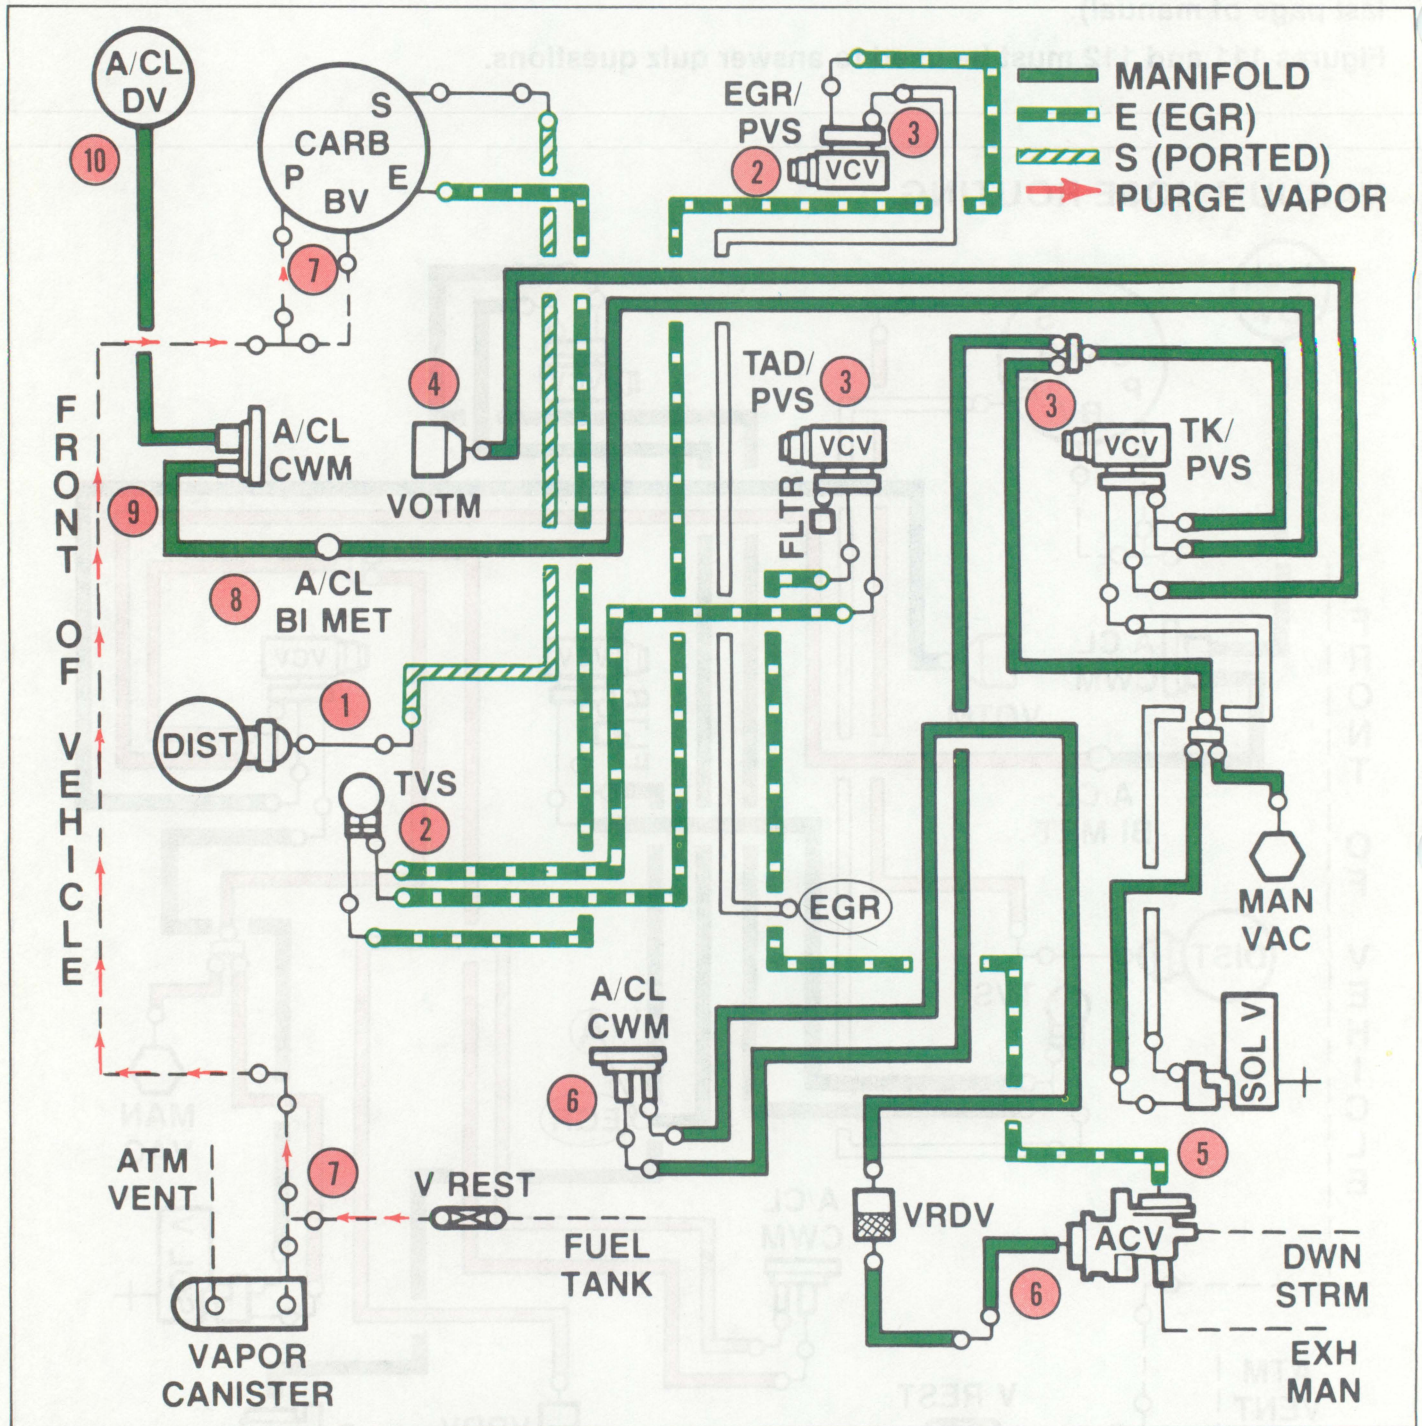

Figure 112 — Vacuum Conditions, Warmup Driveway
3. **Refer to Figure 112.** The EGR valve is:
4. **Refer to Figure 112.** The EGR/VCV or PVS will:
5. **Refer to Figure 112.** Which of the following is a vacuum trap in the heated air intake circuit?
7. **Refer to Figure 112.** If the air cleaner is cold (30°F), Thermactor air should go:
9. **Refer to Figure 112.** Note that the TAD/VCV or PVS has a filter (FLTR). At "hot" cruise, this device should:
- A. the carburetor bowl vent (BV)
- D. vapor canister and bowl vent (BV) tube
11. **Refer to Figure 112.** The throttle kicker solenoid is: